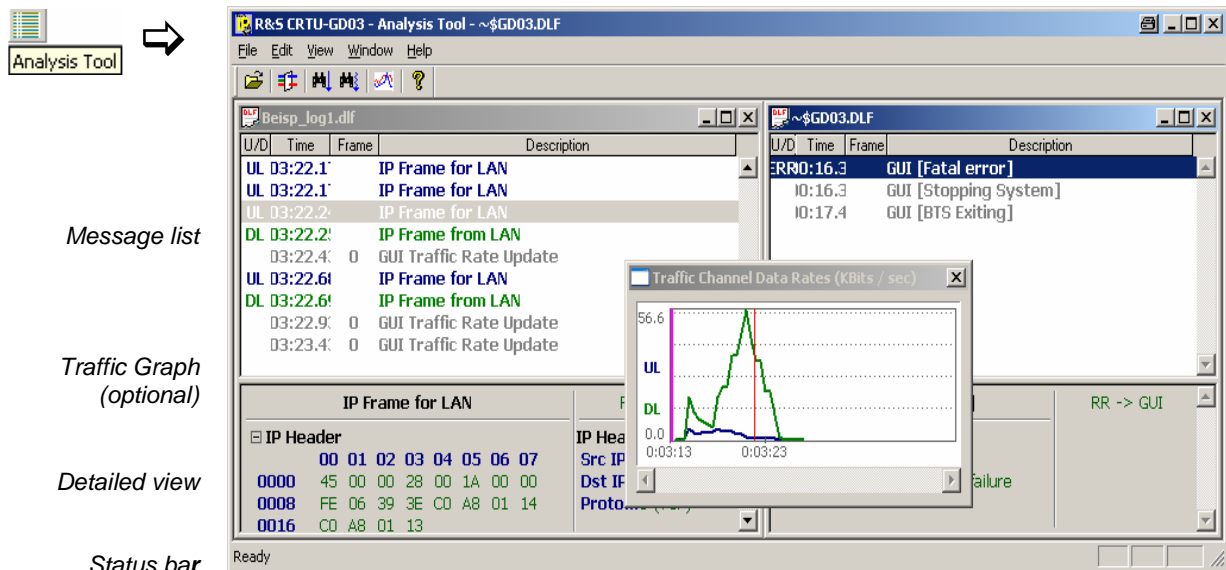

Fig. 9: Analysis Tool
- *Status Bar* shows or hides the status bar; see Fig. 9 on p. 32. Hiding the status bar enlarges the space for the message list and the detailed view.